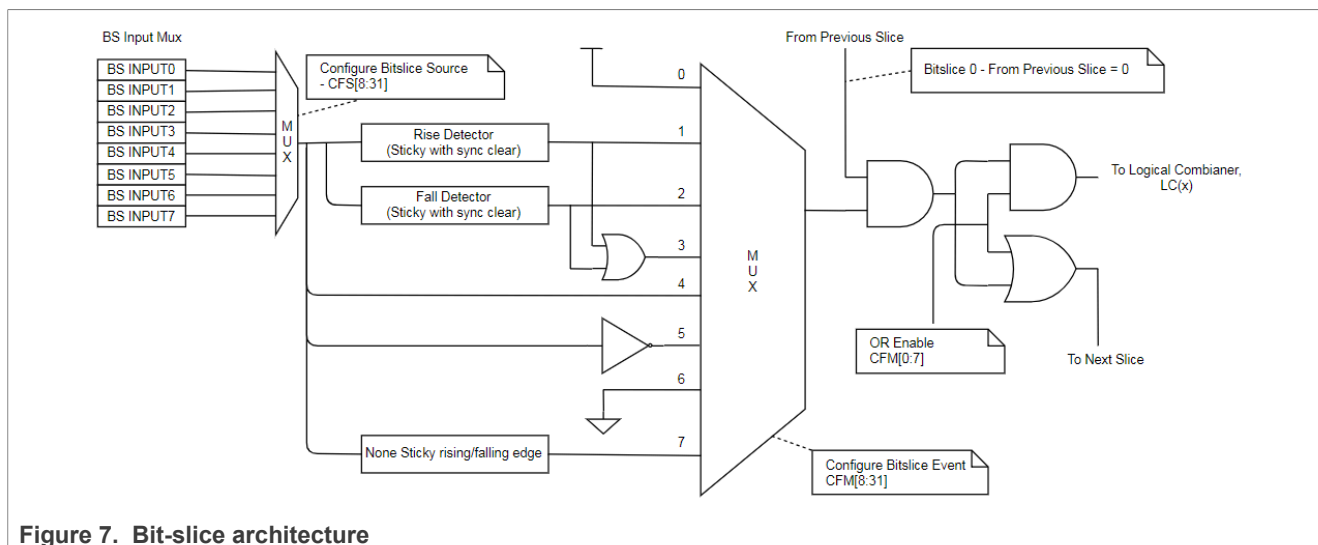

Figure 7. Bit-slice architecture
The EZH includes eight Boolean detection engines, known as bit-slice (BS) Figure 7 shows the bit-slice architecture.